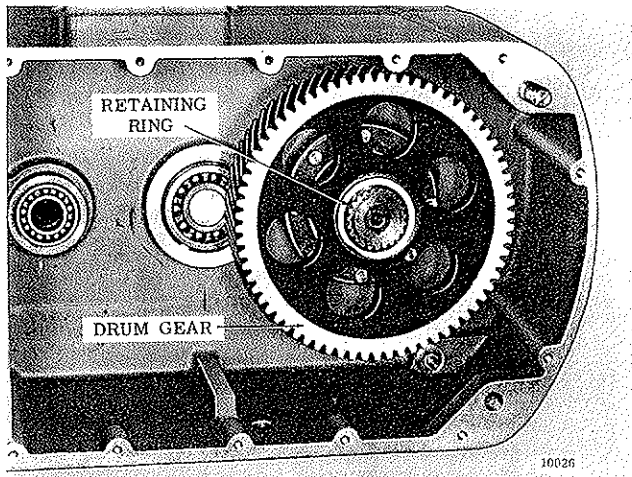

Figure 5-6. All Gearing Removed except Drum Gear.
- f. To remove drum gear, remove spirolox retaining ring from end of drum shaft and pull drum gear from splined shaft (Figure 5-6). This should be done after complete load brake shaft assembly has been removed.